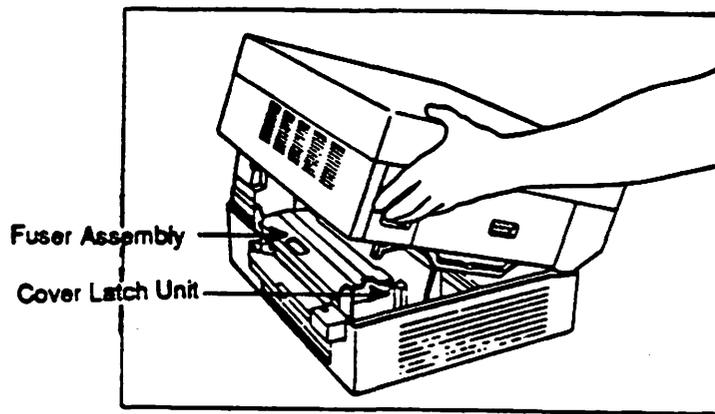

Figure 2-19
1. Open the printer. Open the green cover of the fuser assembly and remove the cleaning felt by sliding it out to the right (see Figure 2-19).
2. Locate the cover latch unit (a grey plastic piece at the front end of the assembly -- see Figure 2-19). Remove the two black screws at the base of the cover latch unit and lift the unit out of the printer.